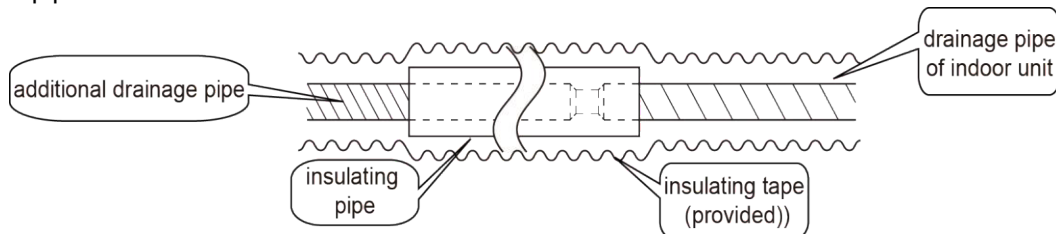

Fig 4.3.1
- (1) The condensate drain pipe should be as short as practical and must slope downward continuously after the initial rise. Maintain a 1%–2% downward slope to allow condensate to drain properly. (A 1/4 in. drop per foot is recommended).
- (2) The diameter of drainage pipe should be bigger or equal to the diameter of drainage pipe joint.
- (3) Install and insulate the condensate drain pipe as shown in Fig. 4.3.1. Improper drain installation can cause water leaks and damage ceilings, walls, furniture, or other property.
- (4) Connect the supplied drain adapter to the indoor unit drain outlet, then connect field-supplied rigid PVC drain pipe to the adapter. Secure and insulate the connection. Do not glue the adapter directly to the indoor unit drain outlet.
- (5) When multiple indoor units share a common condensate drain line, the shared drain line should be installed at least 4 in. / 100 mm below each unit's drain outlet. Use a larger drain pipe sized for the total condensate load of all connected units.